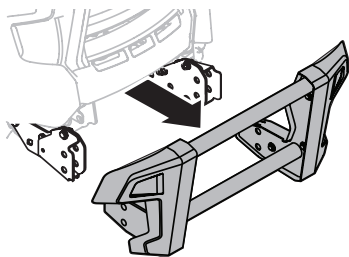

Figure 57
2. The brush guard assembly may now be removed. See Figure 57.